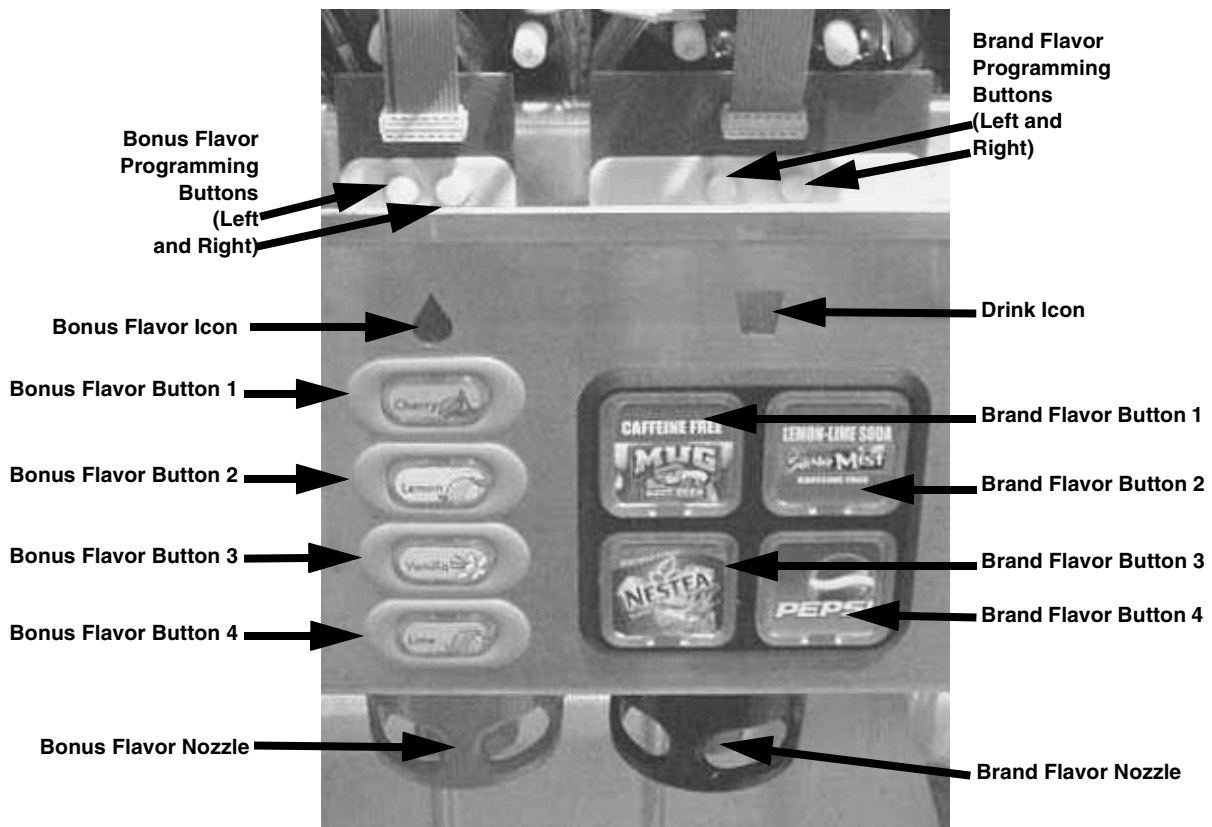

FIGURE 3
To enter the programming mode, press and hold the two program buttons (see FIGURE 3) at the top of the keypad for approximately 4 seconds. All keypad LEDs will flash off for approximately 1 second to indicate the start of the programming mode.
1. Enter programming mode for the valve block by simultaneously pressing and holding both programming buttons for 4 seconds (see FIGURE 3). The LED's for flavors 1-4 should flash off and then back on. The drink icon should turn off.
| 1 | Bonus Flavor Icon and/or Drink Icon LEDs (see FIGURE 3) are ON continuously with four quick flashes every 30 seconds. | A. This indicates a poor connection in the lighting synchronization harness that connects the interface boards together.   | A. Turn the keyswitch to disconnect power to the interface boards. Check the electrical connections between the harnesses that interconnect the right side of all interface boards together. Turn back the keyswitch to reconnect power.                                  |
| 2 | Bonus Flavor Icon and/or Drink Icon LEDs (see FIGURE 3) are not in sync with the lighting sequence,                   | B. This may result over time as the lighting sequence between push button pads can become slightly out of synchronization. | B. Unplugging the unit and performing a power up will re-synchronize the lighting sequence.   |